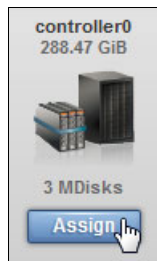

Figure 4-22 Assigning MDisks to include in the Storwize V7000 pool
- Click **Assign** to assign the three MDisks to a pool, as shown in Figure 4-22.